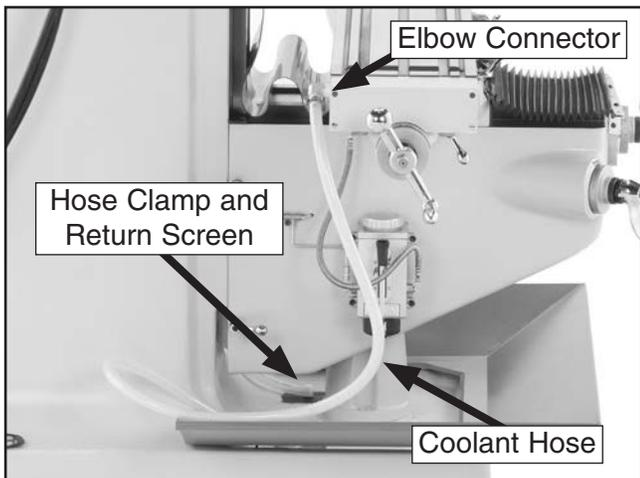

Figure 16. Coolant return hose installed.
7. Wrap the threads of the hose elbow connectors with Teflon tape, then thread them into holes located on either side of the table (see **Figure 16**).
9. Insert the other end of the fluid return hose into the hose clamp mounted on the coolant return screen (see **Figure 16**).